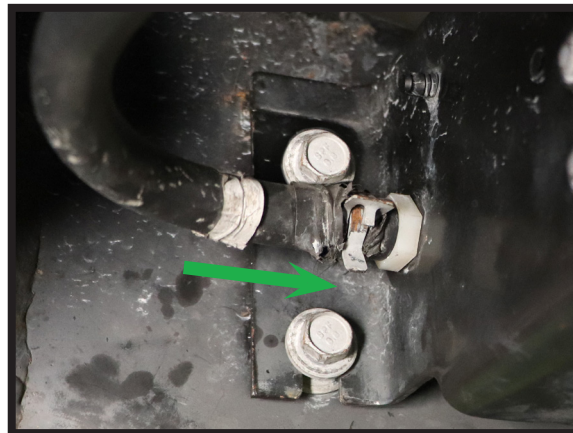

FIGURE 41
11. RECONNECT EXHAUST LINE FROM COMPRESSOR/VALVE BLOCK ASSEMBLY. (FIGURE 41)